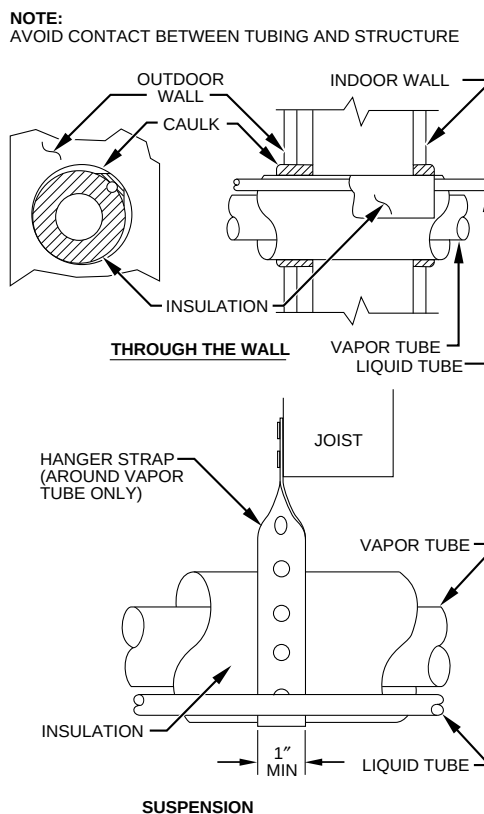

Fig. 9—Piping Installation
5. When passing refrigerant tubes through wall, seal opening with RTV or other pliable silicon-based caulk. (See Fig. 9.)
7. Do not suspend refrigerant tubing from joists and studs with a rigid wire or strap which comes in direct contact with tubing. (See Fig. 9.)
9. When necessary, use hanger straps which are 1 in. wide and conform to shape of tubing insulation. (See Fig. 9.)